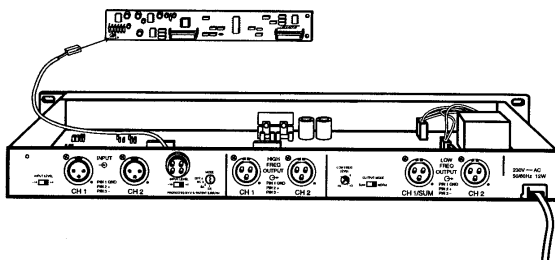

Figure 11. System Controller Connection
B. Connect the harness to **J1** on the OC-1 PCB (**Figure 11**).